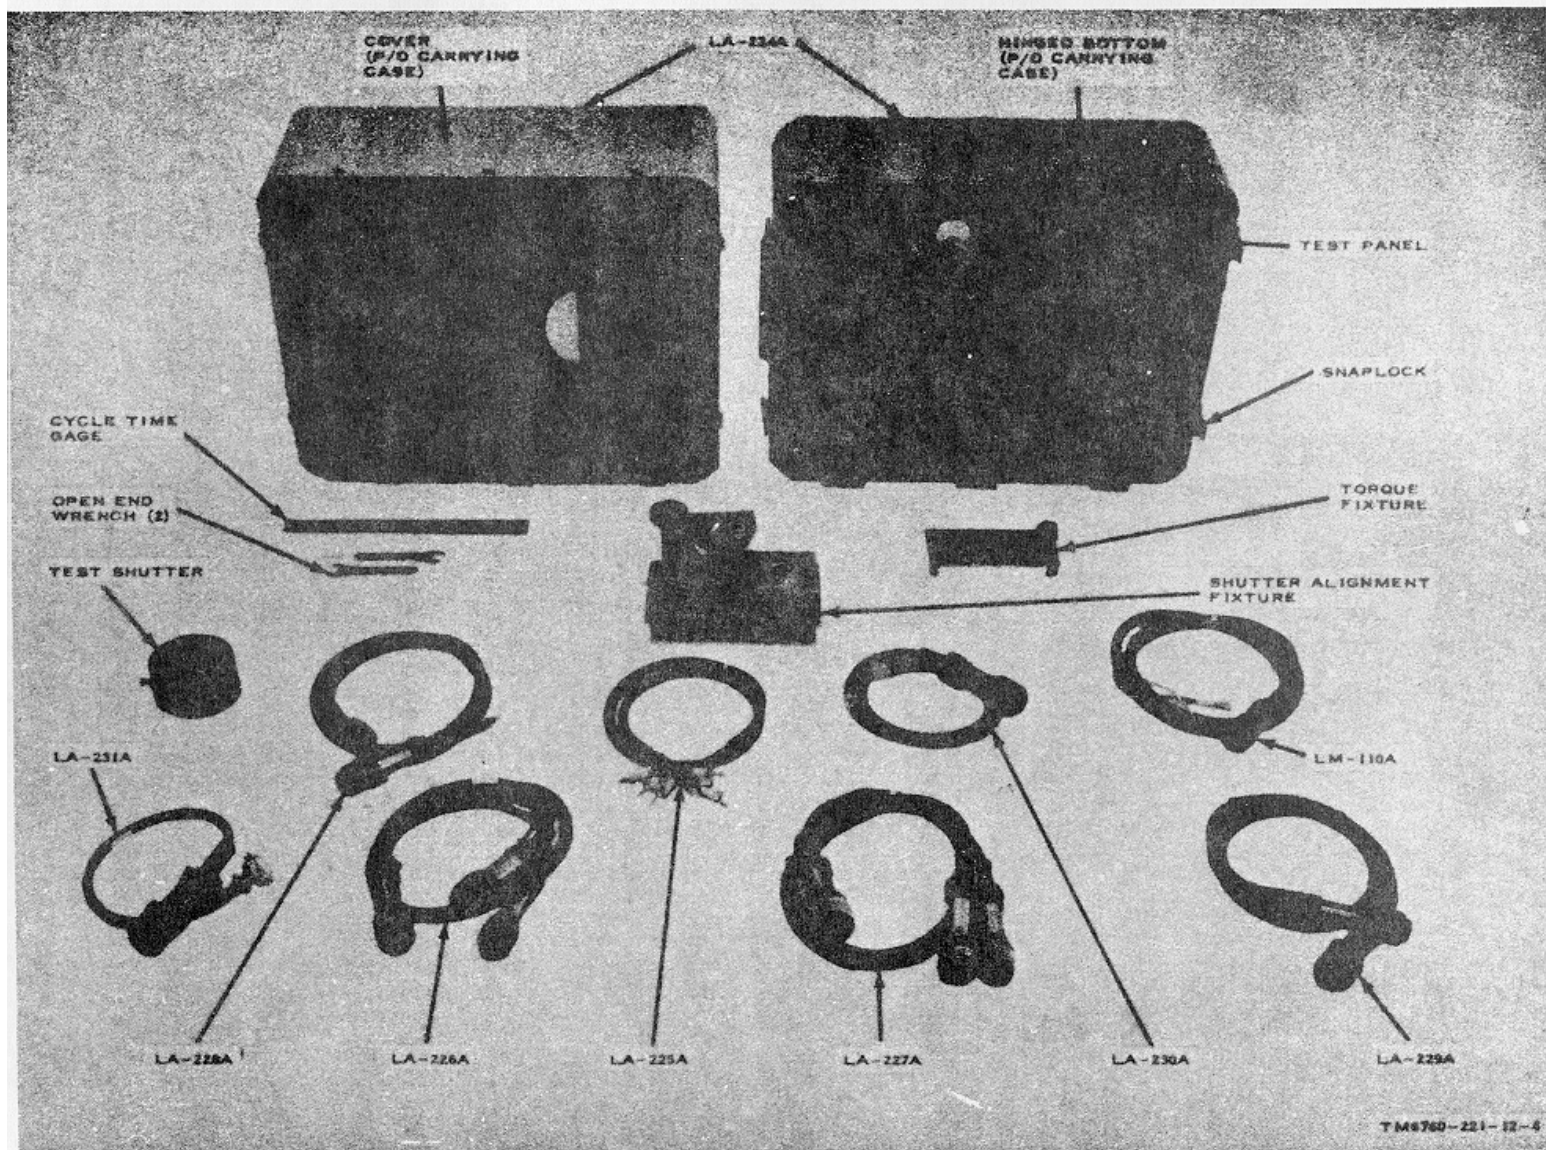

Figure 4. Test Set, Photographic Surveillance System Components LS-46A, less running spares.
- (2) *Test Set, Photographic Surveillance System Components LS-46A* (fig. 4). The LS-46A is used to check the KA-39A ACCS flash detector and the overall camera, the camera amplifier and over run circuit, the camera magazine, and the ACCS control box of Camera, Still Picture KA-39A.